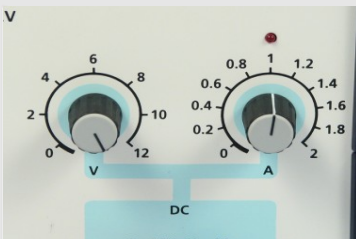

Figure 5
3. Turn the control knob for the current to 1 A. Turn the voltage to 12 V (Fig. 5).